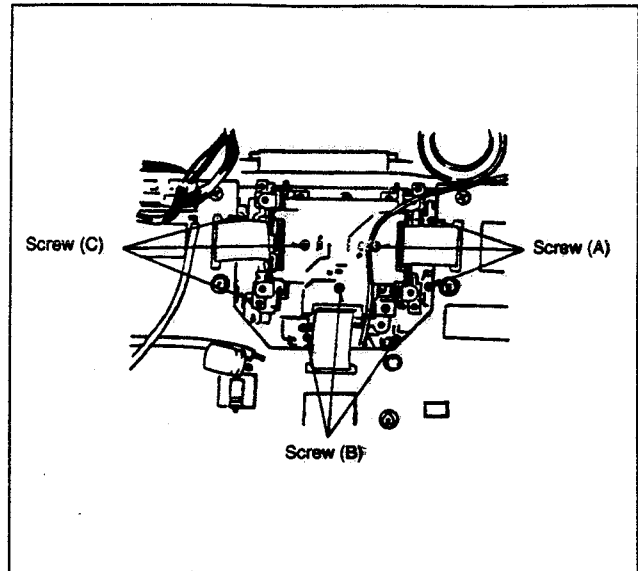

Fig. 3
3. Loosen 3 screws (A). (See Fig. 3)
5. Tighten 3 screws (A).
8. Loosen 3 screws (C). (See Fig. 3)
10. Tighten 3 screws (C).